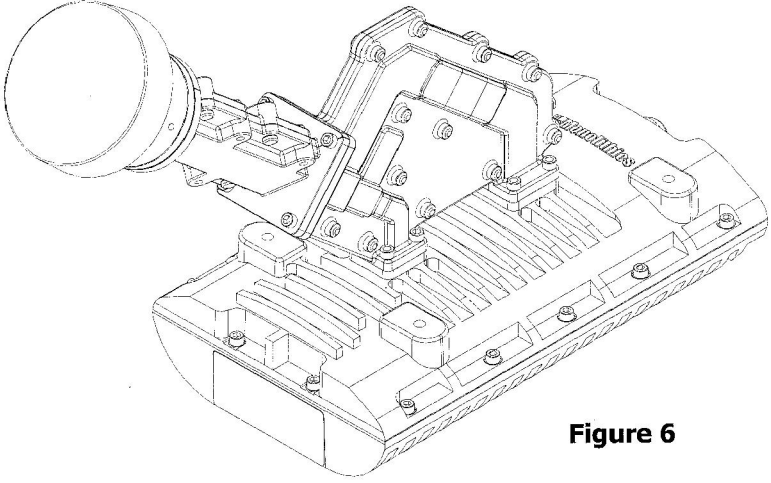

Figure 6
Step 4: TRIA Installation start by removing the TRIA & the mounting hardware kit from its box (**fig 6**).